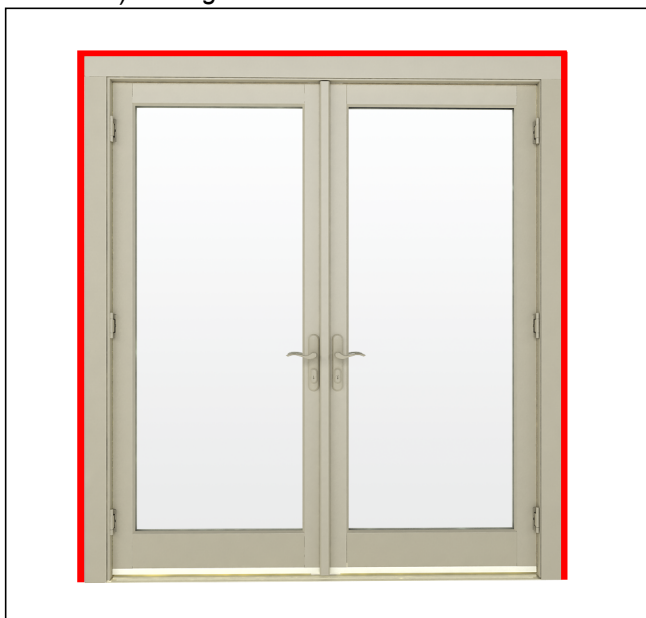

Figure 62
7. Seal casing with clear grade NS class 25 sealant at each jamb and the head jamb to siding or weather resistant barrier. (If required, backer rod may be used.) See figure 62.